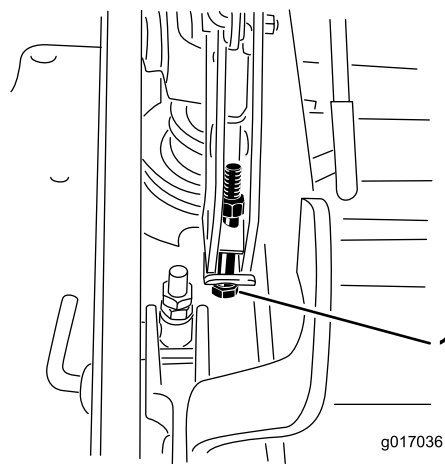

Figure 96
13. If the deck is too low, tighten the single point adjustment bolt by rotating it clockwise. If the deck is too high, loosen the single point adjustment bolt by rotating it counterclockwise (Figure 96).